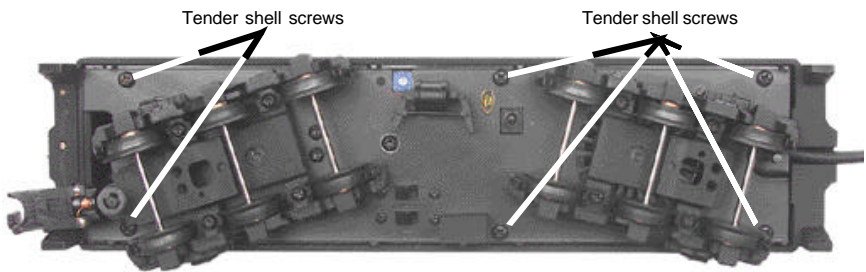

Figure 10
1. Remove the body from the chassis by removing the 4 screws shown in Fig. 10.